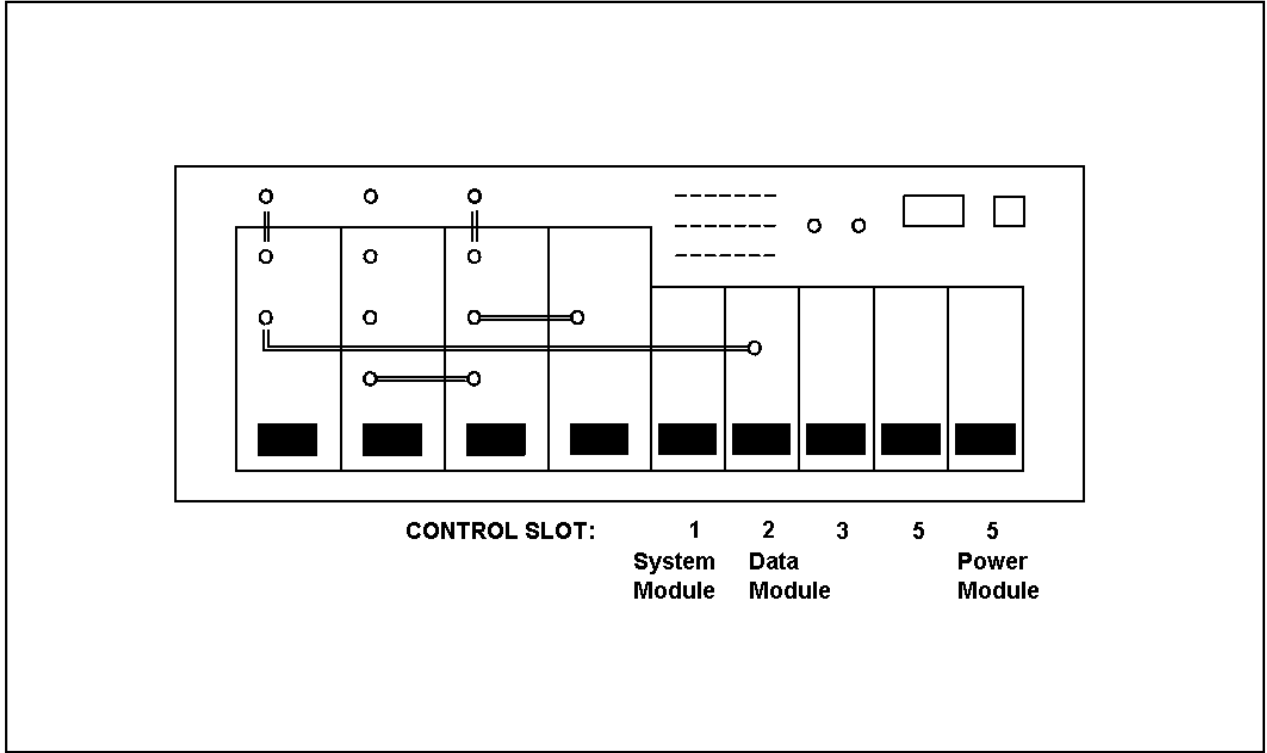

Figure 5 - MASTR III Station
5. Connect the BNC-BNC Cable (344A4688P1) between **RF_IN** of the Transmit Synthesizer and the Data Module as shown in Figure 5.